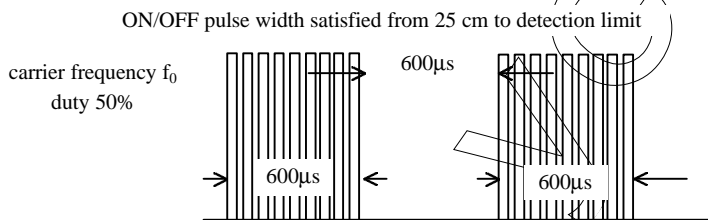

Fig 1. Burst Wave
- (1) Measuring place Indoor without extreme reflection of light.
- (2) Ambient light source .. Detecting surface illumination shall be 200 ± 50 Lux under ordinary white fluorescence lamp of no high frequency lighting.
- (3) Standard transmitter ... Burst wave indicated in Fig 1. of standard transmitter shall be arranged to 50mVp-p under the measuring circuit specified in Fig 2.